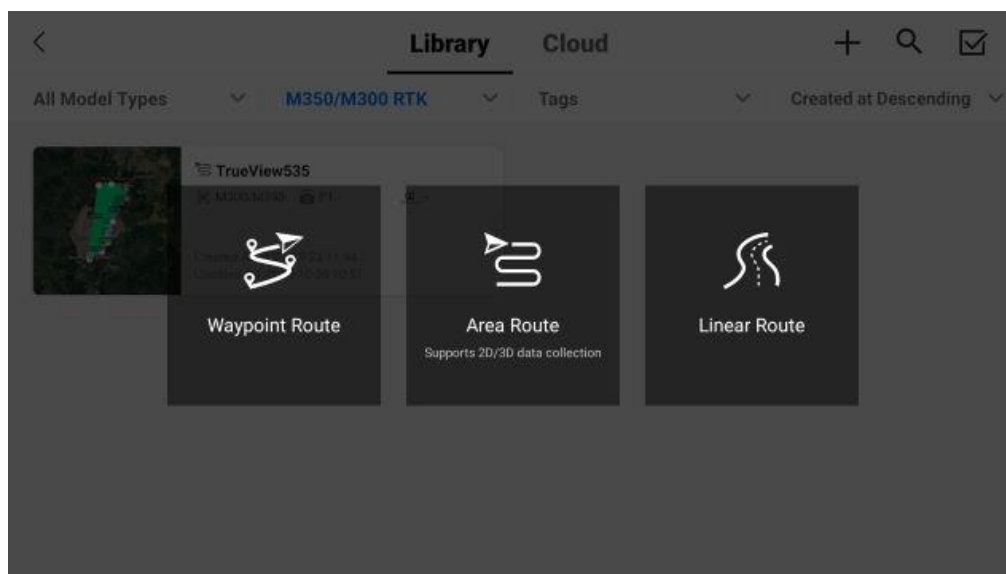

Figure 31: Mission planning options in Pilot 2
1. Choose Flight Route on the home screen and then tap the + Icon on the top right (Figure 31)